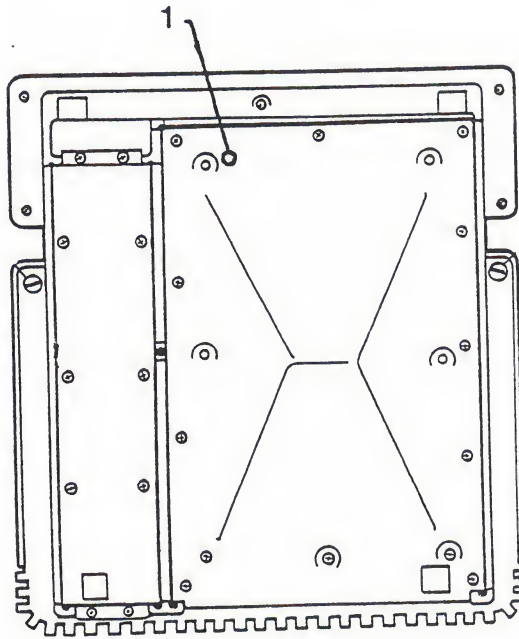

FIGURE 2
NOTE: The keyboard on the Apple /// Plus does not have to be removed to adjust the clock speed. The trimmer capacitor can be accessed through a small hole in the bottom of the base plate, underneath the keyboard (Figure 2, Item 1).
- NOTE:** On the Apple /// Plus, the trimmer capacitor can be turned through the hole in the keyboard (Figure 2, Item 1) you do not have to take the keyboard apart.